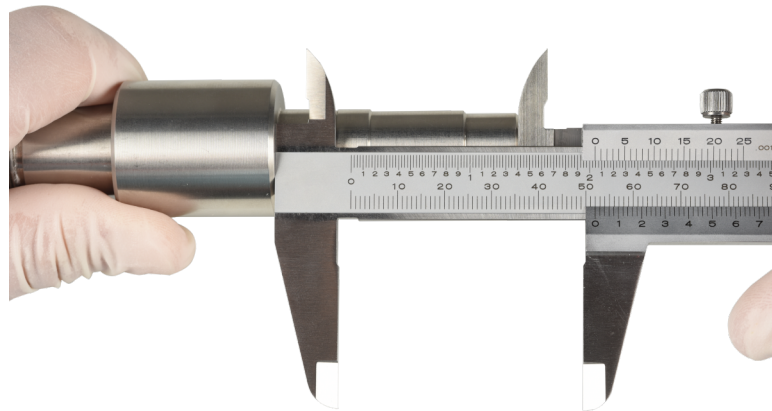

Figure 26: Step measuring (length L_2) on the pump shaft using a vernier caliper.
27. Place the step measuring face of the movable jaw against the end of the pump shaft at your right. Operate the thumb grip to slide the other step measuring face against the central seat on the shaft, as shown in Figure 26.